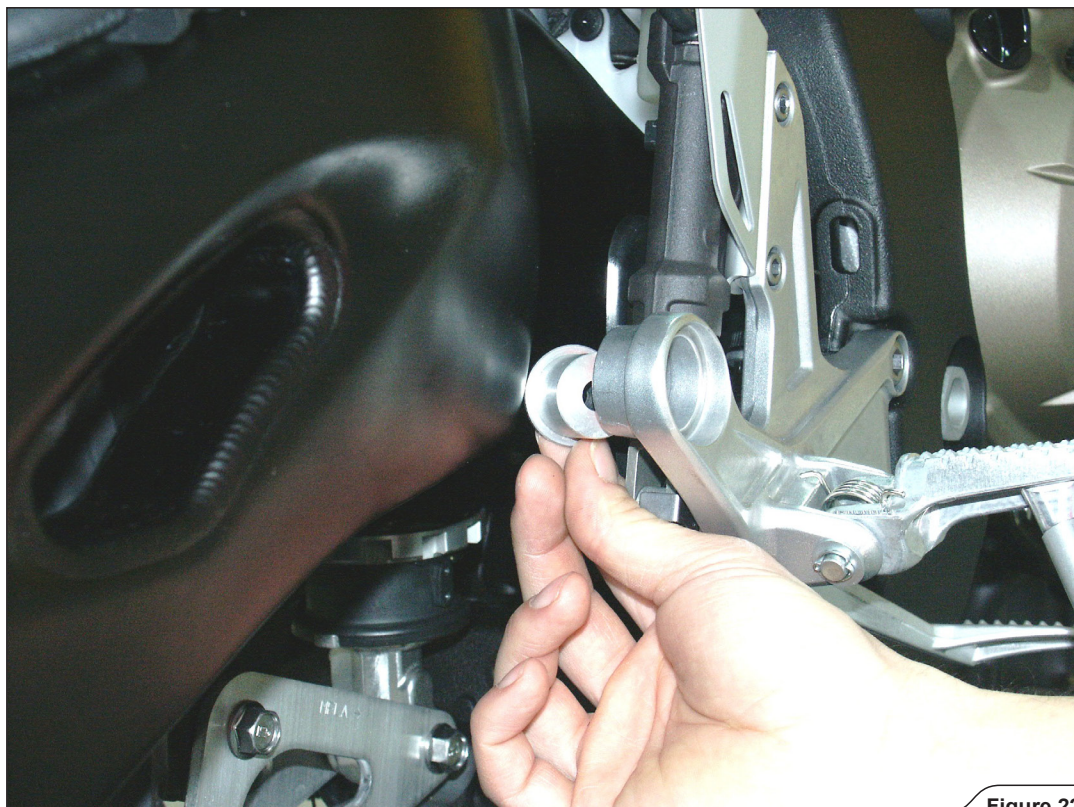
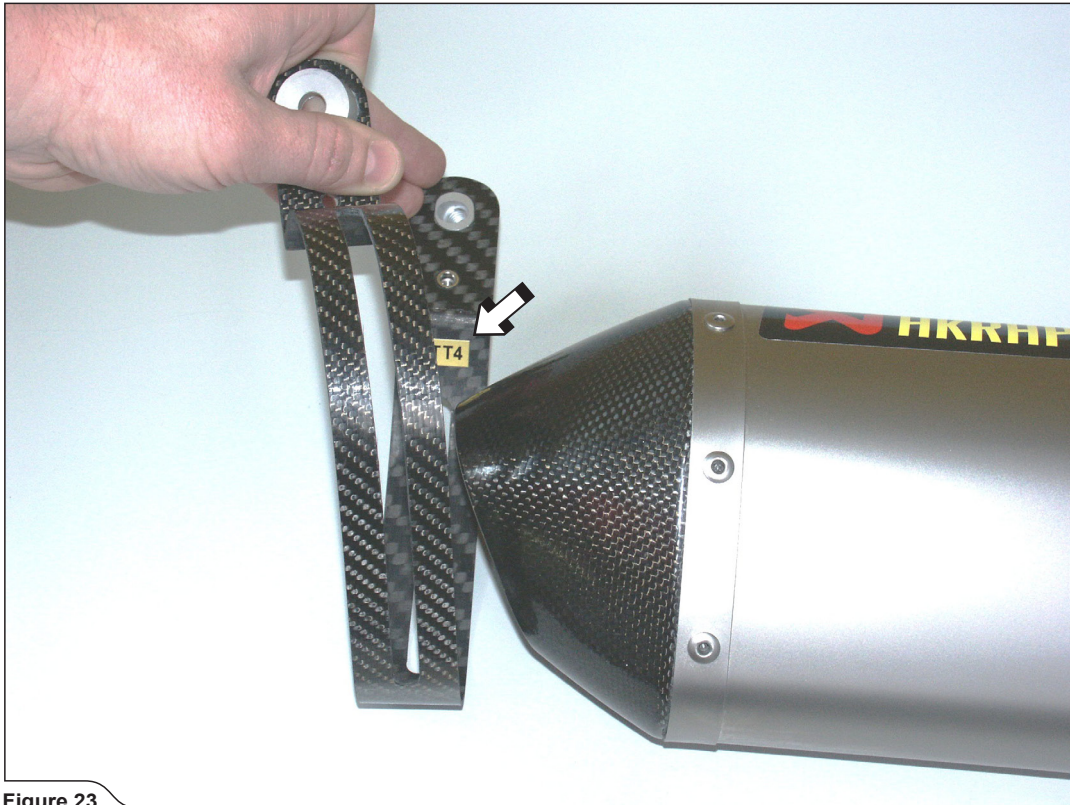

Figure 22
Figure 23
10. Insert the aluminium bush to the muffler bracket (**Figure 22**). Correctly position the carbon-fiber clamp and slide it onto the muffler - bear in mind the **left offset** of the carbon-fiber clamp viewed from the rear (**Figure 23**).